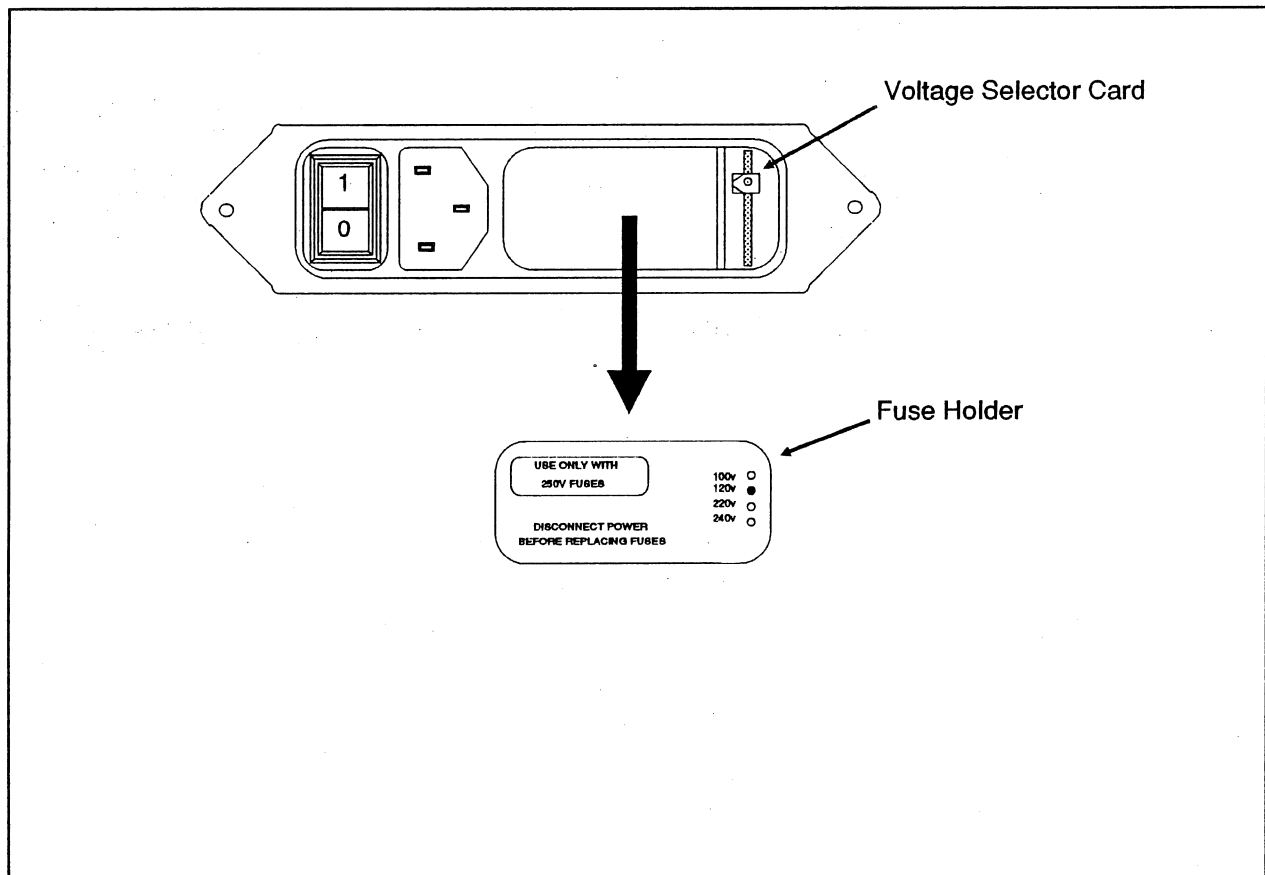

Figure 2-10. Removing the Fuseholder
- 2 Use a small screwdriver to pry out the fuse holder from the power module. See Figure 2-10.